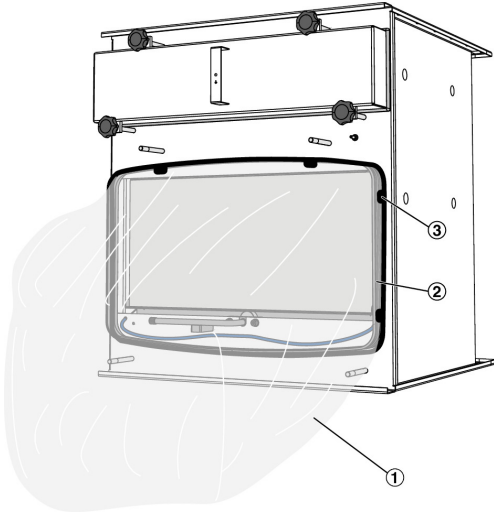

Fig. 13: Attaching the maintenance sack
10. ▶ Put the maintenance sack (Fig. 13/1) over the service board (Fig. 13/2) and fasten it in the first groove with the clamping ring (Fig. 13/3).